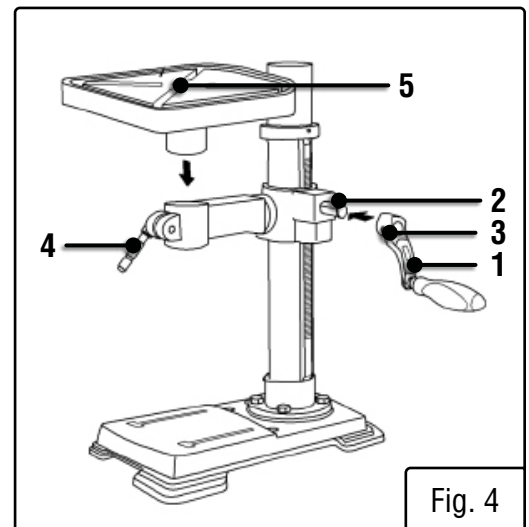

Fig. 4
TABLE TO TABLE SUPPORT BRACKET (FIG. 4)
1. Place the crank handle (Fig 4 - 1) onto the shaft (Fig 4 - 2) of the table bracket so the flat of the shaft is under the set screw (Fig. 4 - 3). Tighten the set screw.
2. Thread the table lock handle (Fig. 4 - 4) into the front of the table support bracket.
4. Position the table (Fig. 4 - 5) in the same direction as the base. Install the table and tighten the table lock handle (Fig. 4 - 4) and support lock handle.